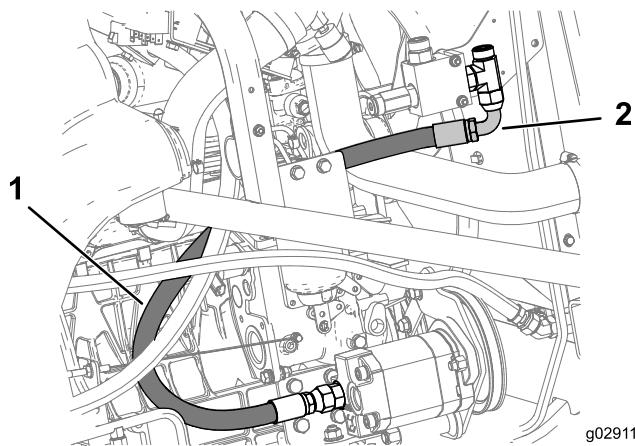

Figure 27
7. Install the other hydraulic hose C from the tee-adapter fitting (5/8 inch male) on the left hydraulic-manifold assembly to the adapter fitting (5/8 x 5/8 inch male) on the gear-pump assembly as shown in Figure 27.